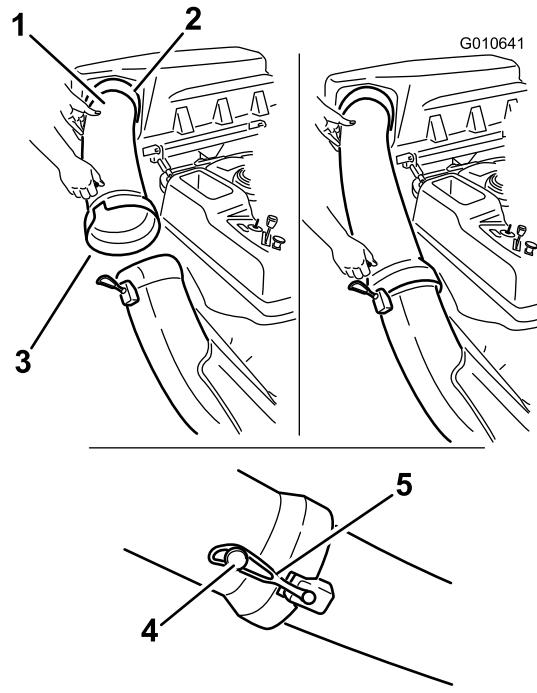

Figure 25
1. Slide the curved end of the discharge tube into the opening in the bagger top (Figure 25).
2. Slide the flared end of the discharge tube over the end of the chute. Move the rubber retaining strap on the chute snaps over the peg on the discharge tube to secure it (Figure 25).